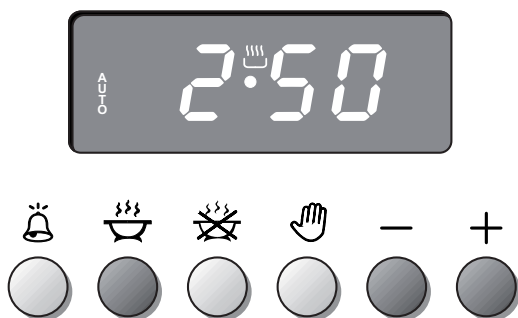

Figure 19
1. Set the length of the cooking period by pushing the  button and the  button to increase, or  to decrease if you have passed the desired time (fig. 19). The **AUTO** and the  symbol will illuminate.